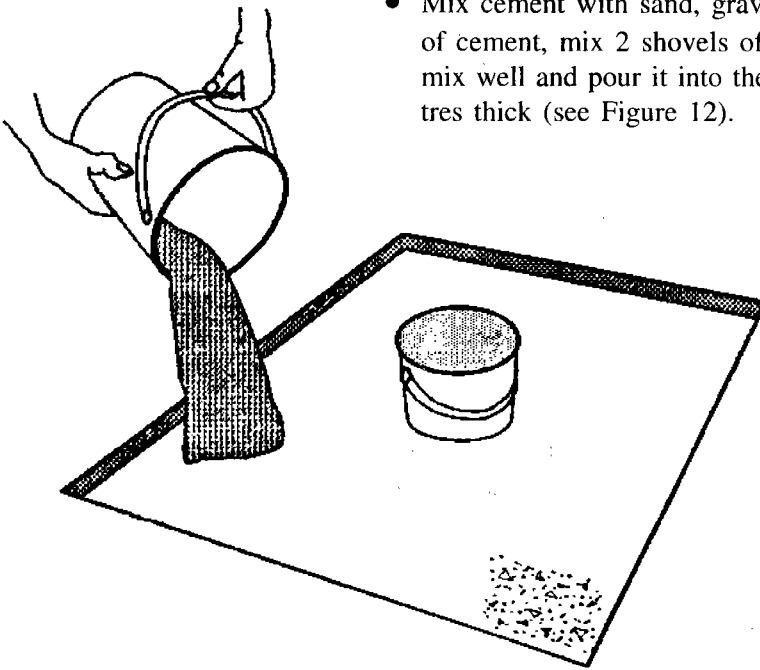

Figure 12. Laying the slab
- Mix cement with sand, gravel and water (with each shovel of cement, mix 2 shovels of sand and 4 shovels of gravel) mix well and pour it into the pit until it is about 50 millimetres thick (see Figure 12).